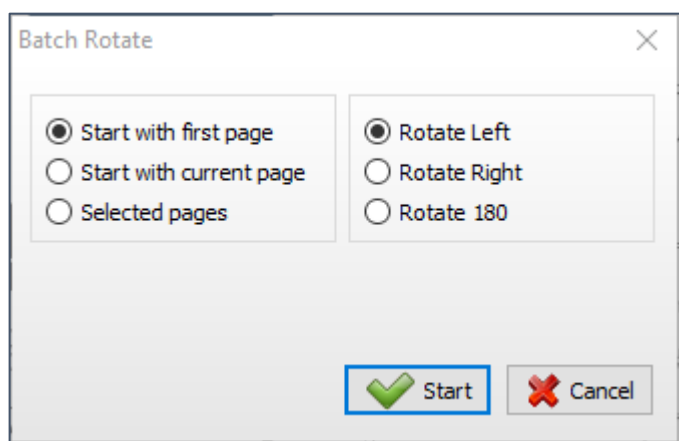

Figure 47-B
7. The **Batch Rotate Pages** button opens the **Batch Rotate** window (Fig. 47-B). The **Batch Rotate Pages** tool rotates both the page and the takeoff items. You can start the rotation at the first page, the current page, or the selected page (or pages). To select multiple pages, hold the **Ctrl** key down to select the pages (from the **Pages, Bookmarks** window) that are to be rotated before clicking on the **Batch Rotate Pages** button. Select **Rotate Left**, **Rotate Right**, or **Rotate 180**, then click on **Start** to begin the rotations. A status bar shows the progress. The **Undo** button does not undo any batch rotations.